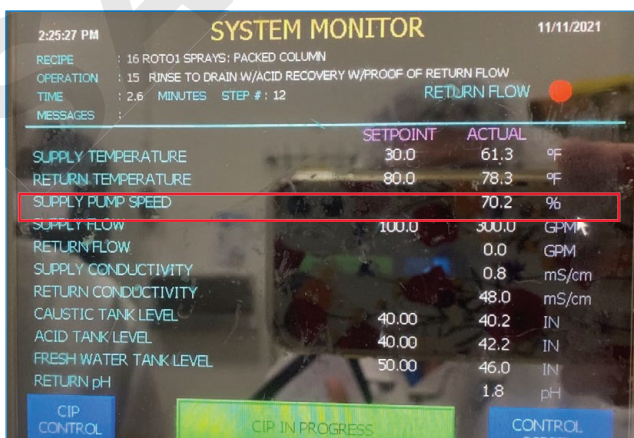

Figure 1.
2. The CIP supply pump significantly overshoots the target during each pump start. Target is 100gpm, whereas pump speeds reached up to 300gpm and took approximately one full minute to stabilize (figure 1)